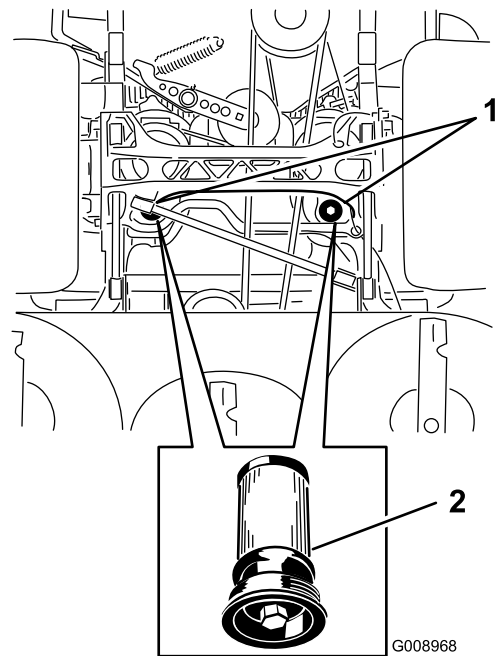

Figure 80
5. Place a drain pan under the filter, remove the old filter and wipe the surface clean (Figure 80).
6. Apply a thin coat of hydraulic oil to the rubber gasket on the replacement filter (Figure 80).